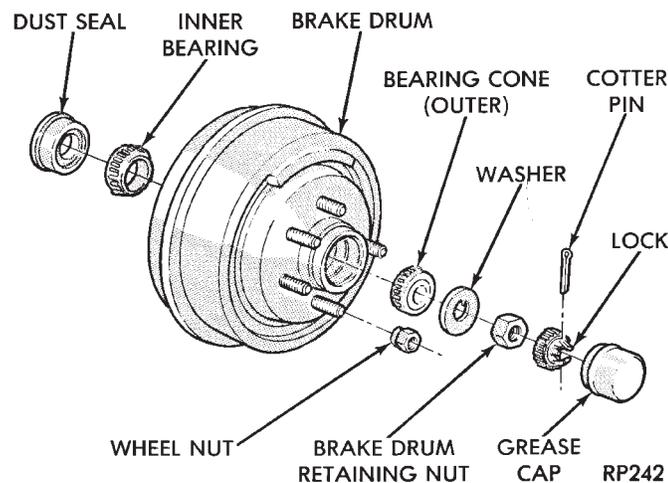

Fig. 1 Remove Brake Drum
- (1) Block front tires so vehicle will not move.
- (2) Release parking brake.
- (3) Hoist vehicle so that rear suspension is in full rebound and tires are off the ground. See Hoisting in Lubrication and Maintenance, Group 0.
- (4) Remove wheel and tire assembly.
- (5) Pry off grease cap.
- (6) Remove cotter pin and castle lock.
- (7) Remove adjusting nut.
- (8) Remove brake drum (Fig. 1).